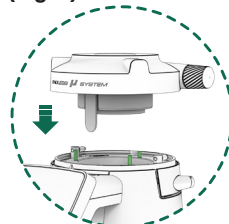

Fig. 6
12.3.5. When reassembling the grind regulator, face the silicon curtain in front and the three holes with three pins in the grind chamber (Fig. 6).